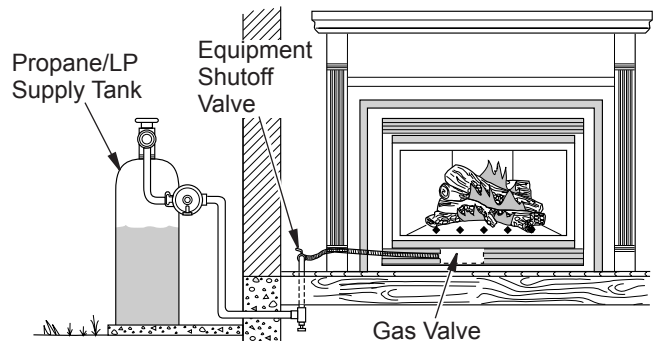
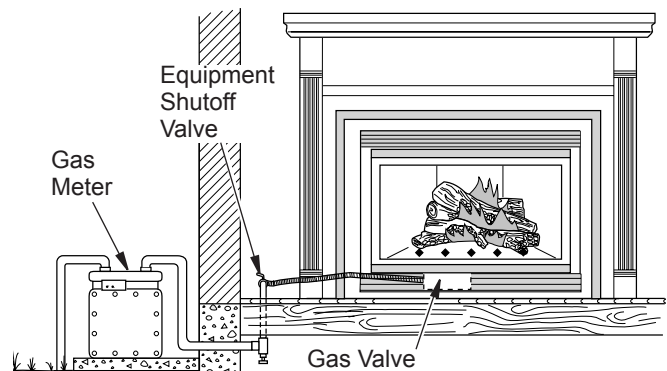

Figure 34 - Checking Gas Joints for Propane/LP Gas Fireplace
Figure 35 - Checking Gas Joints for Natural Gas Fireplace
3. Check all joints from propane/LP supply tank or gas meter to equipment shutoff valve (see Figure 34 for propane/LP or Figure 35 for natural gas). Apply noncorrosive leak detection fluid to all joints. Bubbles forming show a leak. Correct all leaks at once.
4. Check all joints from equipment shutoff valve to gas valve (see Figure 34 or 35). Apply noncorrosive leak detection fluid to all joints. Bubbles forming show a leak. Correct all leaks at once.